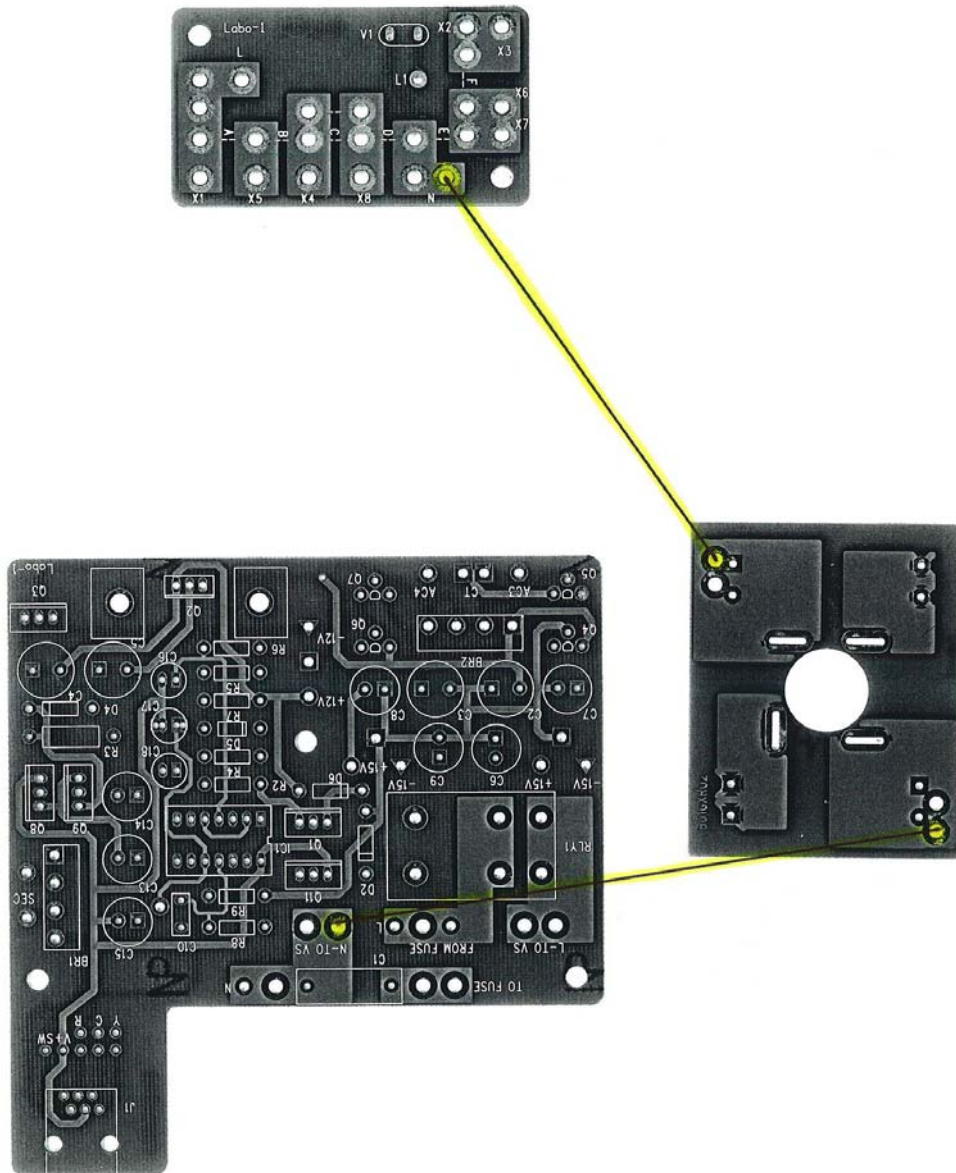

fig. 1
10. Connect N wire to one end of the noise filter board, Classe part number B01GXR01. (Fig. 1)
11. Using the wire supplied with the kit, connect the other end of the noise filter board. (Fig. 1)